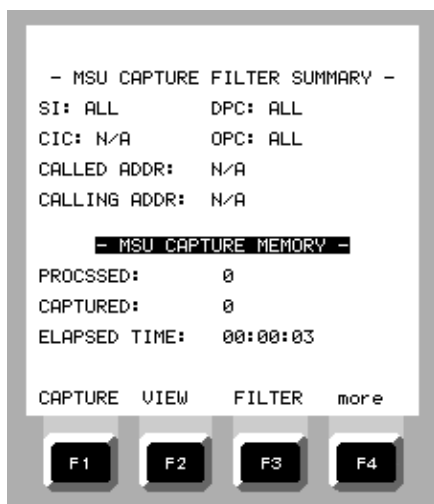

Figure 2-132. MSU CAPTURE FILTER SUMMARY Before Capture
8. Press ENTER and confirm that the filtering selections is set correctly by checking the setup on the MSU CAPTURE FILTER SUMMARY screen (Figure 2-132).